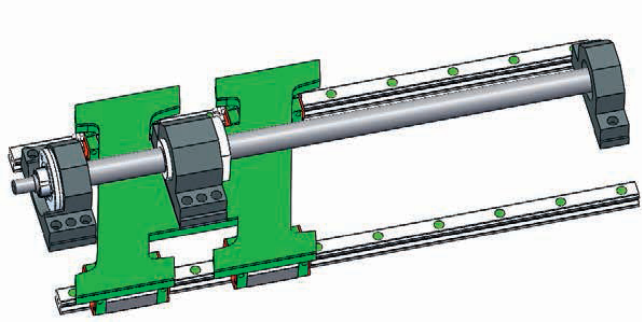

Fig. 10.8 Ballscrew with nut near the left stop limit for fixed bearing alignment
- ▶ Move the table with the nut as close as possible to the fixed bearing (refer to Fig. 10.8).